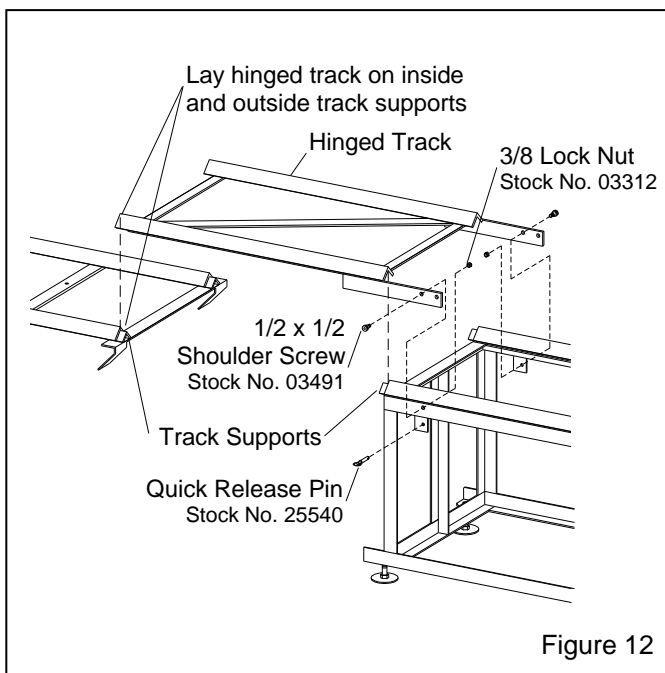

Figure 12
3.4.4 Attach Hinged Track, refer to Figure 12
3.4.4.1 With the door open, place the hinged track on the inside and outside track supports, as shown in Figure 12. Maneuver the outside track as needed to align the hinge track bolt holes with the outside track bolt holes, while making sure hinge track is fully resting (with no gaps) on the track supports.